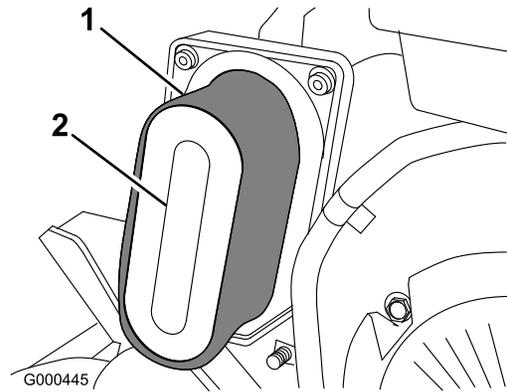

Figure 29
3. If foam element is dirty, remove it from paper element (Figure 29). Clean thoroughly.